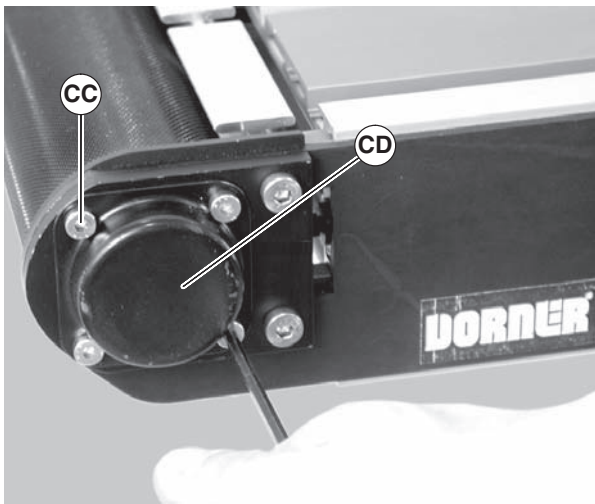

Figure 68
3. Remove four shaft cover screws (Figure 68, item CC). Remove the shaft cover (CD).